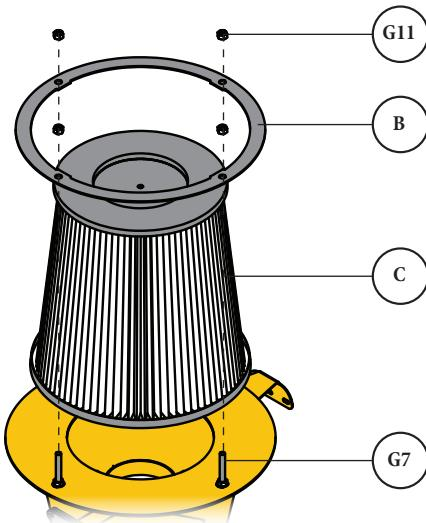

FIG. 17
- 17** Slide the Filter Hold-Down Ring (B) over the Filter (C) and the previously installed bolts (G7) and secure in place using four Nylock Nuts (G11) [FIG. 17].